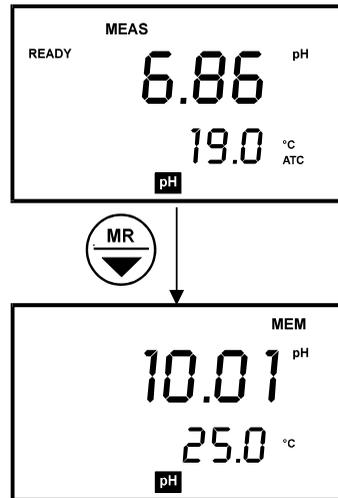

Figure 26: Memory Recall function
3. The memory annunciator, [MEM], will appear on the display (See Figure 26).